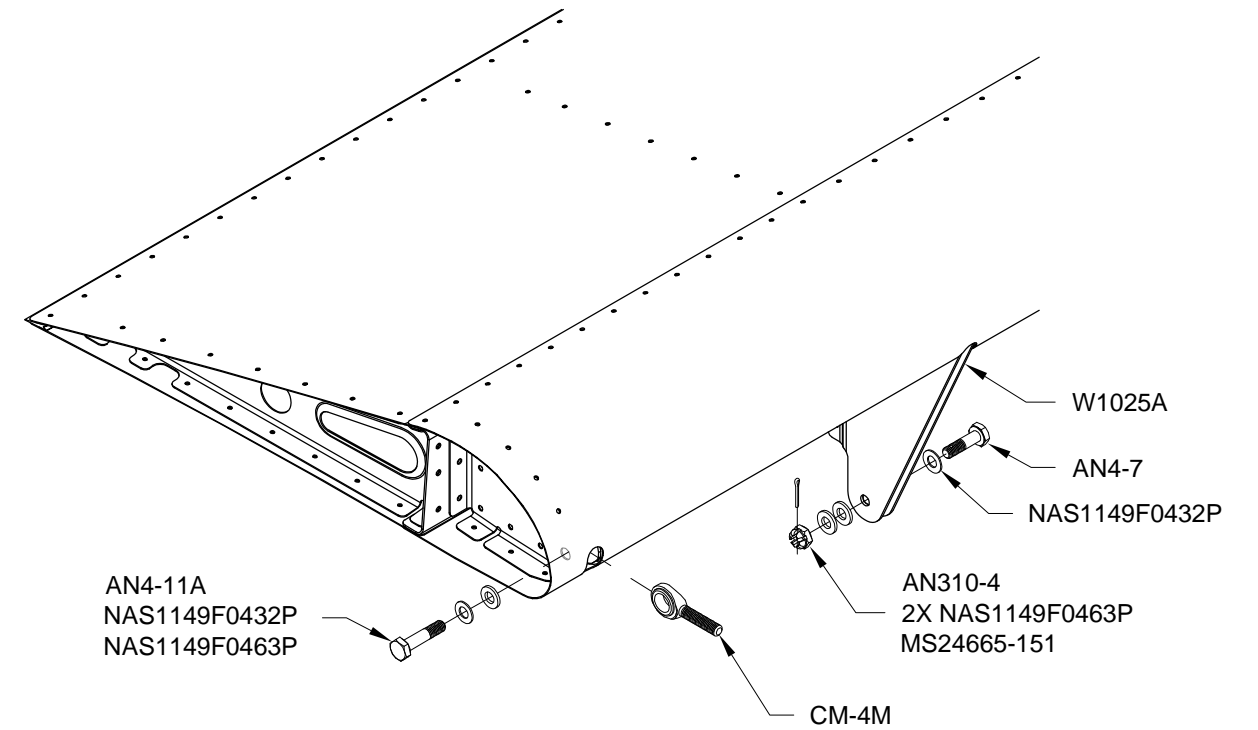

FIGURE 3: ATTACHING ROD END
Step 3: Attach the flap to the W-1025A Flap Hinge Brackets using the hardware called out in Figure 3.